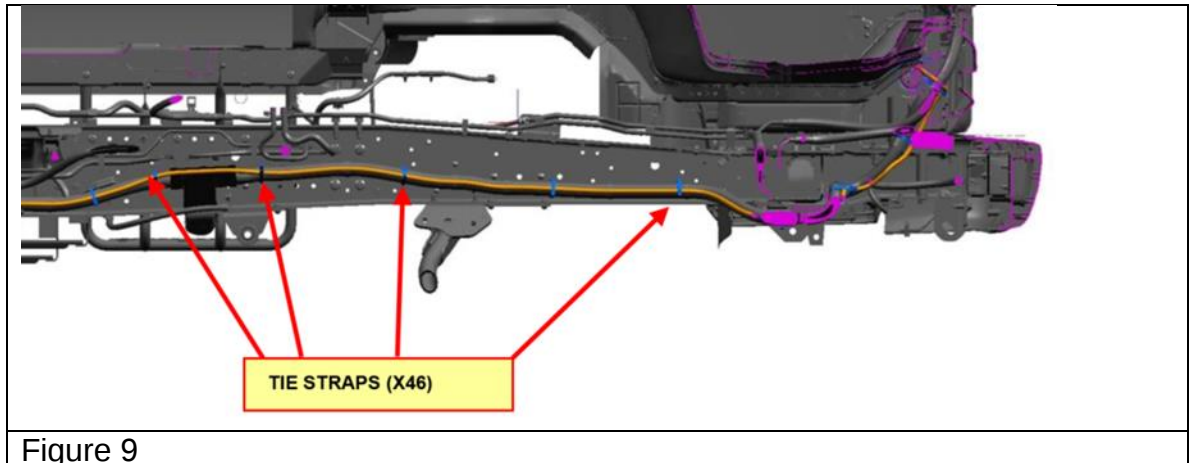

Figure 9
5. Starting from the front of the vehicle, cut and remove all the tie straps that secure the DFT harness along the entire frame rail. (See Figure 9.)